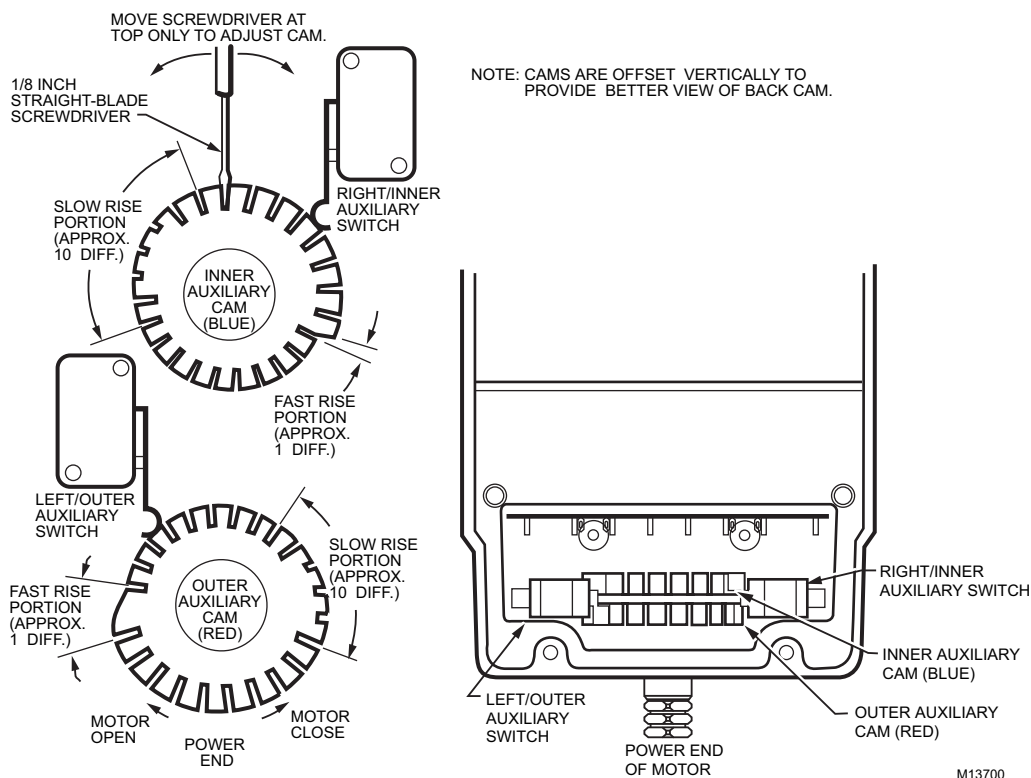

Fig. 14. Auxiliary switch adjustment.
1. Insert 1/8 in. screwdriver blade into a slot on cam and move the screwdriver top as far as possible in the required direction. See Fig. 14.